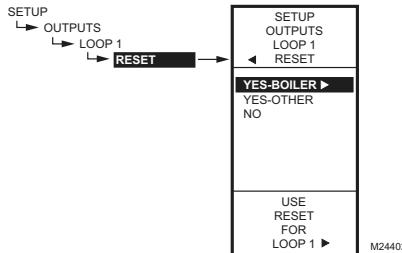
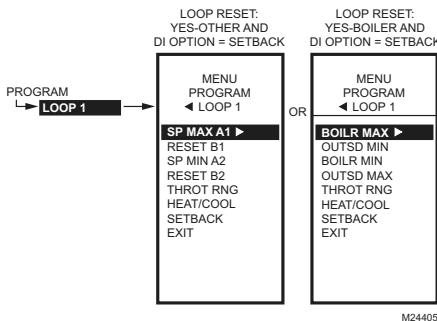

Fig. 59. Reset Setup.
Fig. 62. Setpoint Values for Reset and Setback.
- then select YES-BOILER or YES-OTHER (Fig. 59).
Fig. 62 shows both of the Loop 1 menus. Your menu is the one chosen in Fig. 59 on page 25